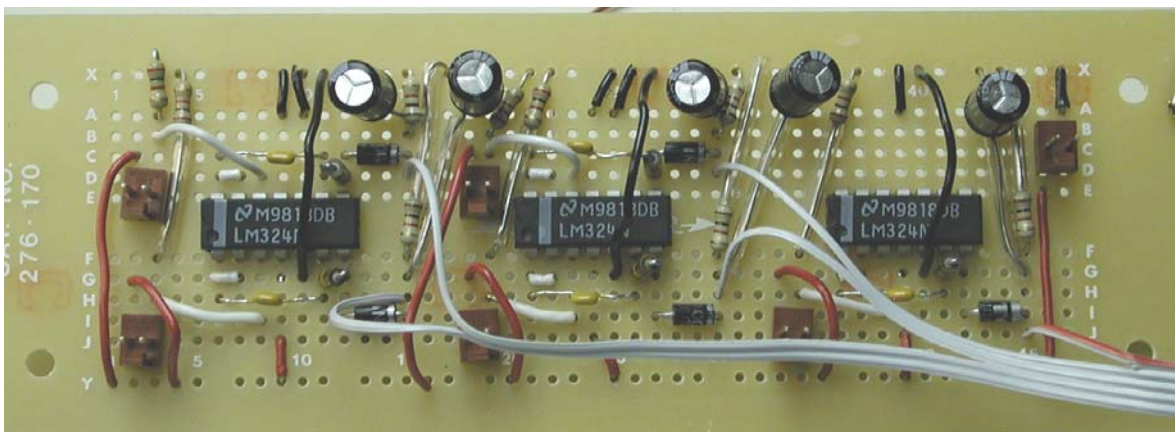

Figure 8: Positive supply and Handy Board input
- Figure 8 shows the final circuit. The red wires were installed on the left pin of the Molex header